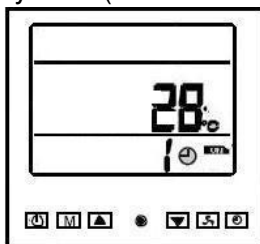
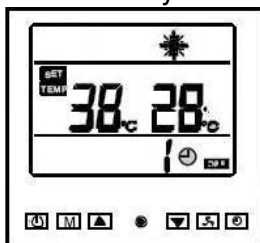

Figure 13: Automatic start settings.
Figure 14: Automatic standby settings.
To start the heat pump, press . The heat pump starts within 3 minutes. The last selected operating mode (heating or cooling¹⁹), see Figure 13, Figure 14 and Paragraph 5.2.13.8, the last temperature set and the current pool water temperature (heating or cooling) is immediately displayed.
- Heating,  is displayed, see Figure 13.
- Cooling,  is displayed, see Figure 14.
The temperature read by each sensor can be displayed by pressing  (for model BP-xxWS-B (xx=35, 50), press ) and hold down for 3 seconds with the pump is running, see Paragraph 5.2.4. To display temperatures read by the various sensors, press  (for model BP-xxWS-B (xx=35, 50), press ). The temperature read by the sensor is displayed for 10 seconds, if no other key is pressed, or press  to return usual information to the display, see Figure 13 and Figure 14.